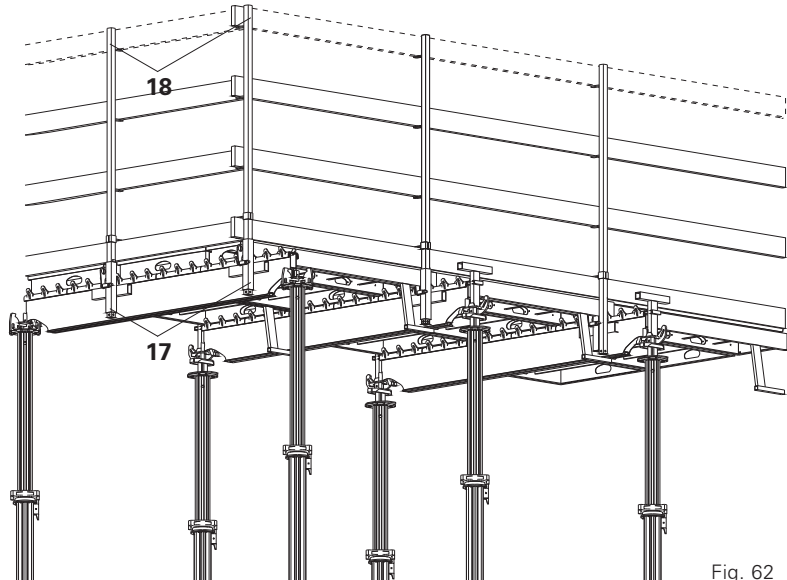

Fig. 62
4. Insert guardrail posts (18).
5. Insert guardrail boards and secure by nailing. (Fig. 62)